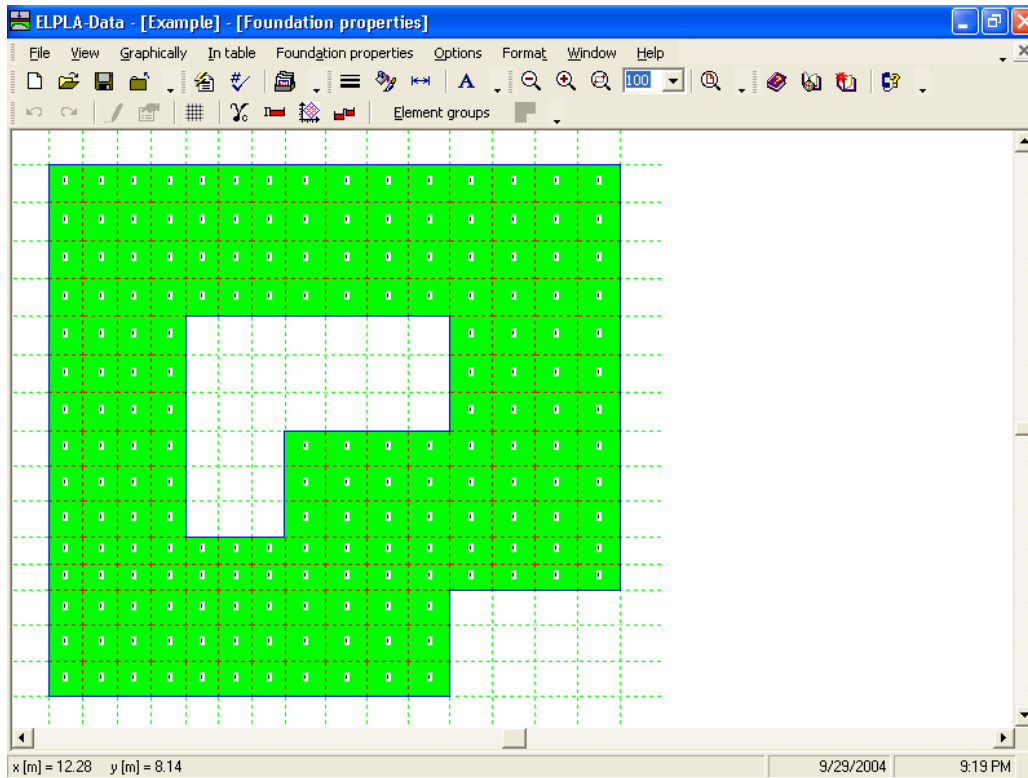
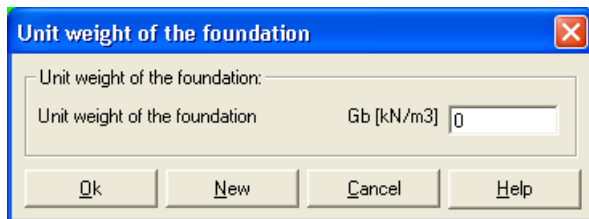
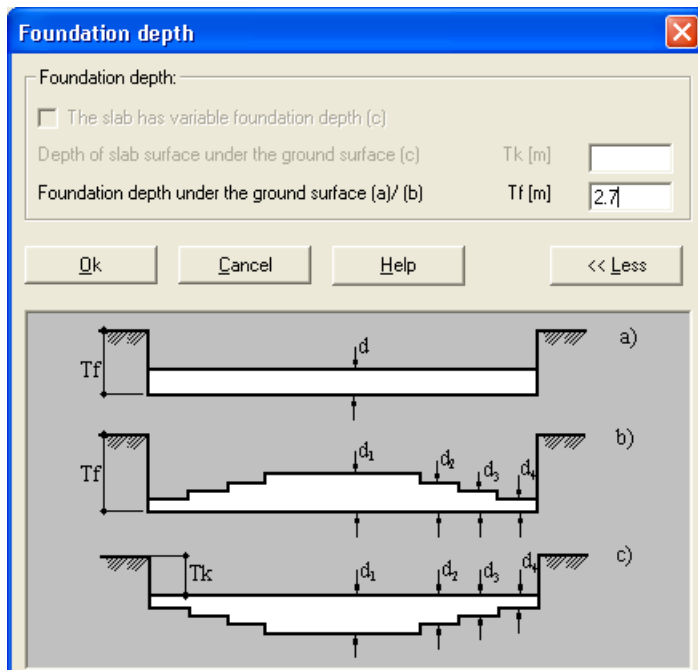

Bild 1-22 "Foundation properties" embedded program
Figure 1-24 "Unit weight of the foundation" dialog box
Figure 1-25 "Foundation depth" dialog box
To define the foundation properties, choose "Foundation properties" command from "Data" menu. The following embedded program in Figure 1-22 appears with default foundation properties. The data of foundation properties for the current example, which are required to be defined, are raft material, raft thickness and foundation depth. Any other data corresponding to foundation properties in the program menus are not required in this example. Therefore, the user can take these data from the default foundation properties.
To enter the unit weight of the raft, choose "Unit weight of the foundation" command from "Foundation properties" menu in the window of Figure 1-22. The following dialog box in Figure 1-24 with a default unit weight of 25 [kN/m3] appears. To neglect the self-weight of the raft in the analysis, type 0 in the "Unit weight of the foundation" edit box. Click "OK" button.
To enter the foundation depth under the ground surface, choose "Foundation depth" command from "Foundation properties" menu in the window of Figure 1-22. The following dialog box in Figure 1-25 appears to define the foundation depth under the ground surface. Type 2.7 in the "Foundation depth under the ground surface" edit box. Then click "OK" button.
- Choose "Save foundation properties" command from "File" menu in Figure 1-22 to save the foundation properties
- Choose "Close foundation properties" command from "File" menu in Figure 1-22 to close the "Foundation properties" embedded program and return to the main window of *ELPLA-Data*